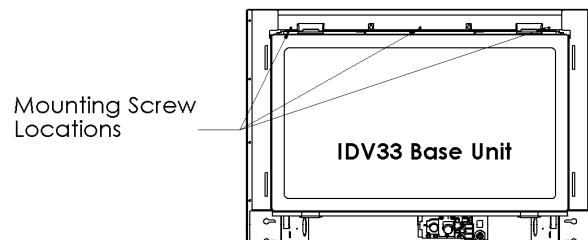

Fig. 1A - Base unit.
5. For CV models only: Reattach the Top Filler (Fig. 1A) with three [3] screws before installing the I33CV/I36CV Fronts.